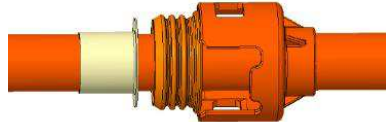

Figure 4: slide components onto cable before processing
Step 1/步骤一 In the order shown in figure 4, slide cover, single wire seal and shield sleeve onto cable sheath, keeping them out of crimping area.
按照图4所示的顺序，滑动保护盖，线缆密封圈和屏蔽套管到电缆护套上，使它们不在压接区域。